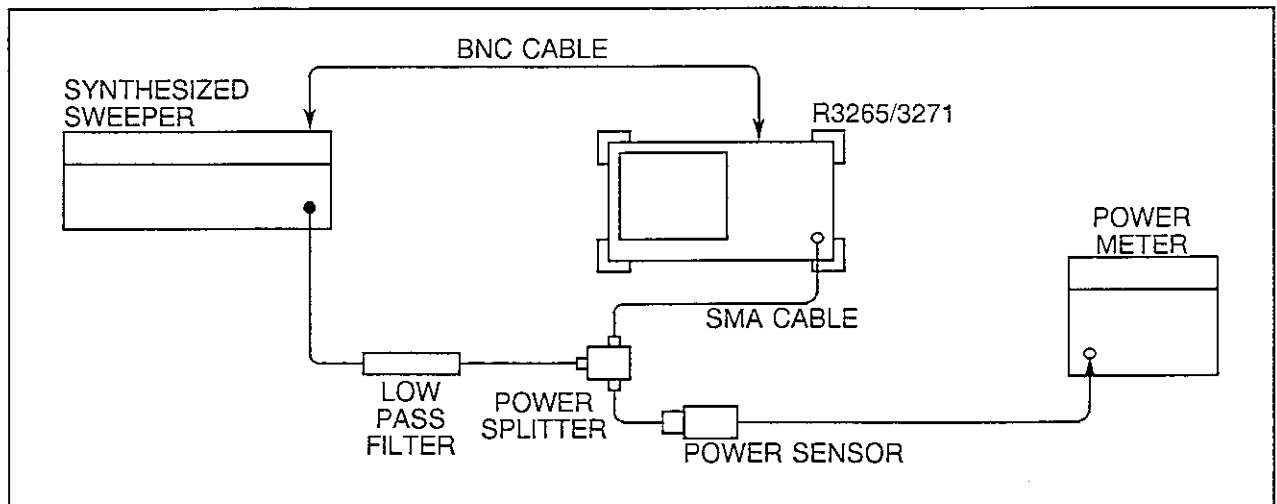

Figure 4-11 Second Harmonic Distortion Test Setup
- (1) Zero and calibrate the power meter. Rotate the CAL FACTOR switch to the power sensor's 1.5 GHz calibration factor.
- (2) Connect the equipment as shown in Figure 4-11.
- (3) Press the INSTR PRESET key on the TR4515. Set the TR4515 controls as follows:
- (13) Connect the equipment as shown in Figure 4-11.